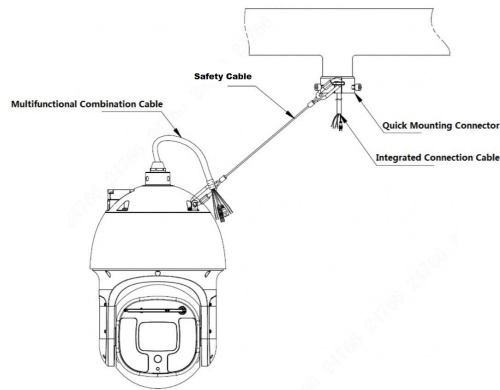

Figure 2-1
Step 2 Clip one side of the safety cable on the speed dome and the other side on the quick mounting connector. See Figure 2-1.